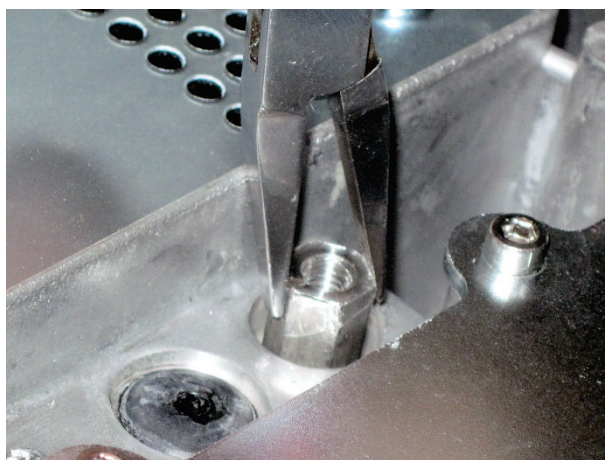

Figure 88 Instrument purge inlet port straight connector
10. Push the end of one piece of tubing onto the right-angled connector as shown in Figure 88.